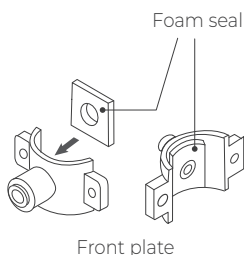

Figure 8
b. Choose a spot on the drainpipe that is convenient for installing the drain saddle (**Figure 8**). Drill a 1/4" hole in the drainpipe. Be sure not to penetrate the opposite side of the pipe.